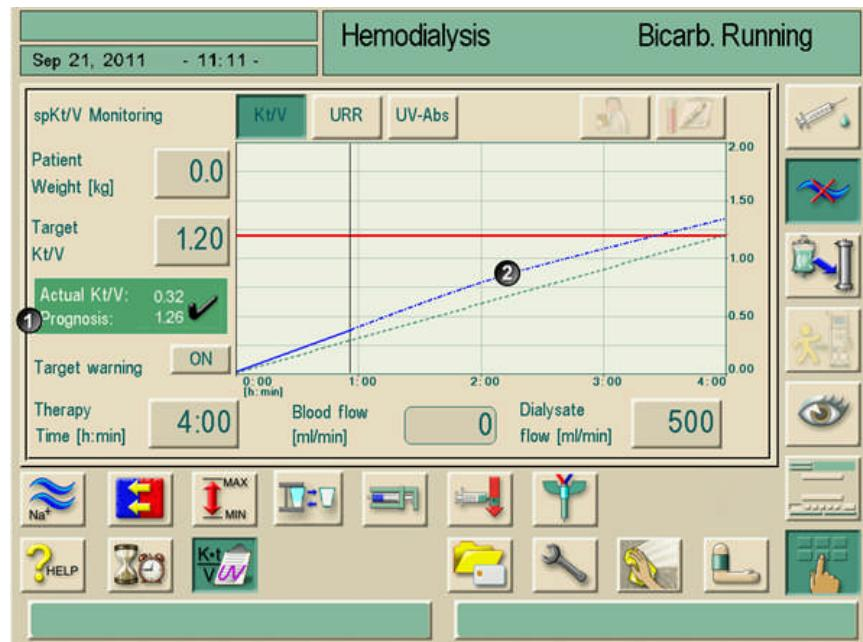

Fig. 10-14 Numerical and graphical display of the prognosis
In hemodialysis (HD) mode the user gets a "prognosis" of the estimated Kt/V value at the end of therapy. It is displayed numerically (Fig. 10-14, 1) and graphically (Fig. 10-14, 2). The blue actual progress line will be extended from the actual therapy status in order to predict the therapy progress.